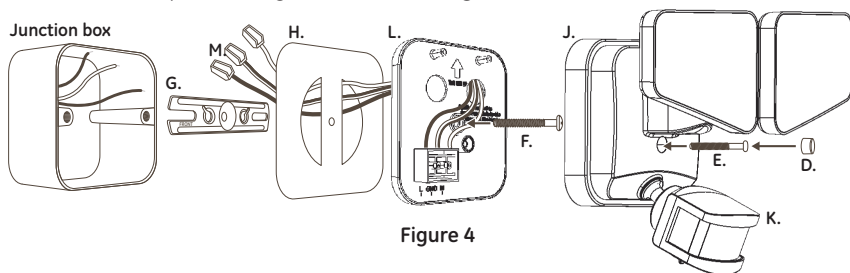

Figure 4
- Route the wires with Push-in quick wire connectors (M) through the provided gasket (H) (see **Figure 4**).